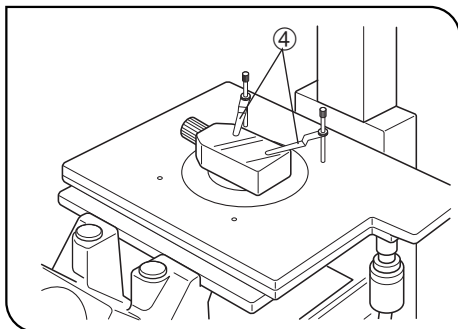

Fig. 85
4. Screw the IX-SCL stage clips ④ into the threaded holes provided on the stage top surface. (Fig. 85)